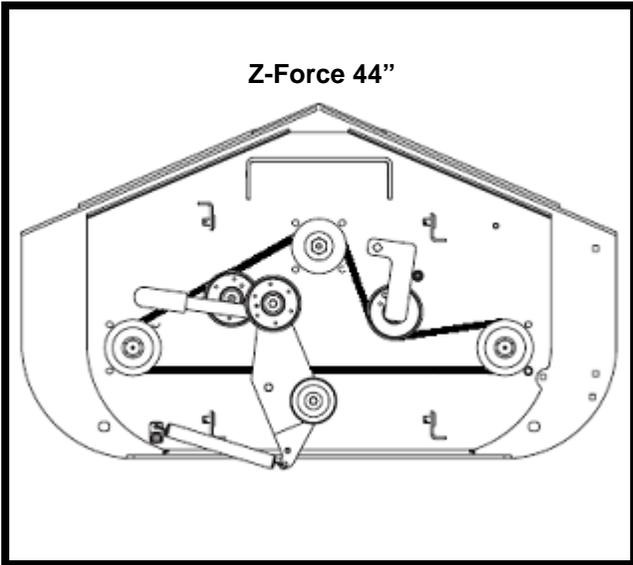

FIGURE 7
29. Install the spindle/deck belt. See Figure 7 for belt routing, (Z-Force 44 Shown) or refer to Operators Manual.